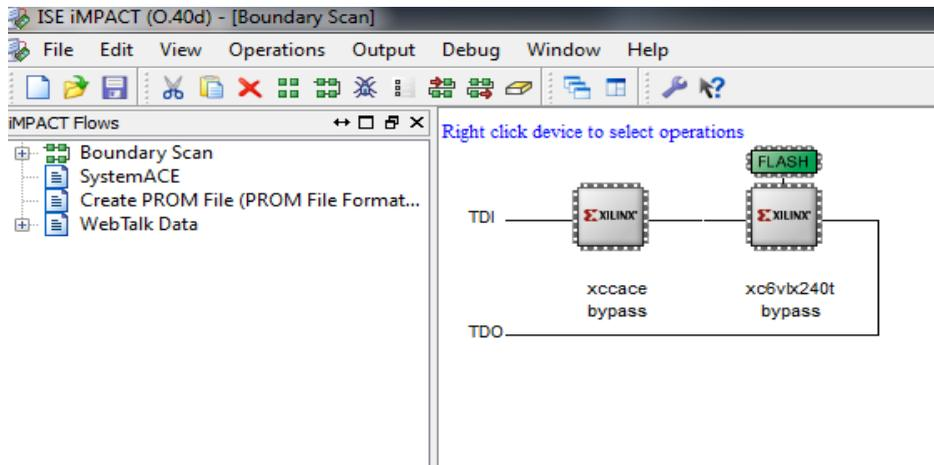

Figure 3-6. iMPACT After Selecting Platform Flash
- 12. As shown in Figure 3-6, the FLASH icon should appear on top of the FPGA icon in the right side of the window.